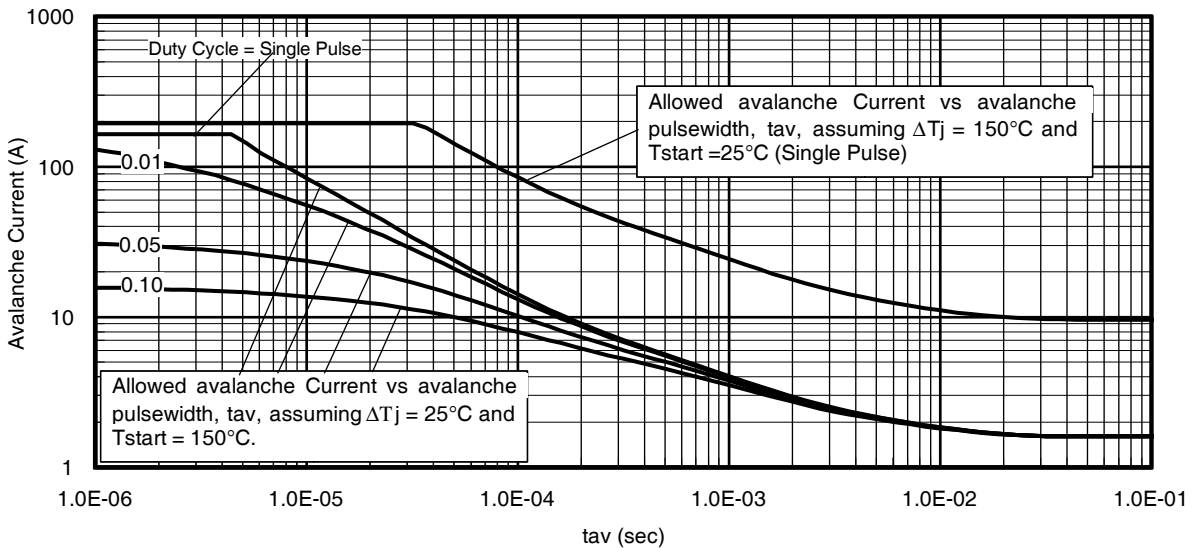

Fig 14. Typical Avalanche Current vs. Pulsewidth
- ④ $I_{SD} \leq 165A, di/dt \leq 430A/\mu s, V_{DD} \leq V_{(BR)DSS}, T_J \leq 175^\circ\text{C}$.
- ⑤ Pulse width $\leq 400\mu s$; duty cycle $\leq 2\%$.
- ⑥ $C_{oss \text{ eff. (TR)}}$ is a fixed capacitance that gives the same charging time as C_{oss} while V_{DS} is rising from 0 to 80% V_{DSS} .
- ⑦ $C_{oss \text{ eff. (ER)}}$ is a fixed capacitance that gives the same energy as C_{oss} while V_{DS} is rising from 0 to 80% V_{DSS} .
- ⑧ When mounted on 1" square PCB (FR-4 or G-10 Material). For recommended footprint and soldering techniques refer to application note # AN-994.
- ⑨ $R_{\theta j}$ is measured at T_J approximately 90°C .
- ⑩ Limited by T_{Jmax} , see Fig. 14, 15, 22a, 22b for typical repetitive avalanche performance.
- ⑪ $R_{\theta jC}$ value shown is at time zero.
Notes on Repetitive Avalanche Curves, Figures 14, 15:
7. ΔT = Allowable rise in junction temperature, not to exceed T_{jmax} (assumed as 25°C in Figure 14, 15).